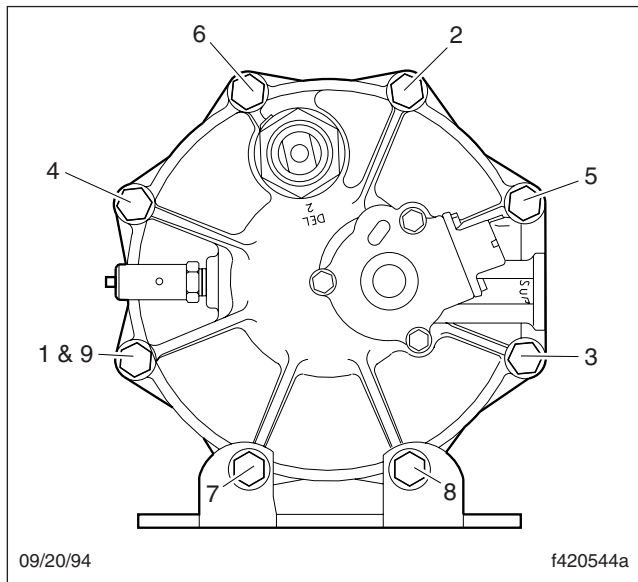

Fig. 2, End Cover to Housing Torque Pattern
16. Install the 6 capscrews, 12 washers, and 6 new Nylok nuts. Tighten the capscrews in a star pattern 270 to 385 lbf-in (3050 to 4350 N-cm). See Fig. 2.